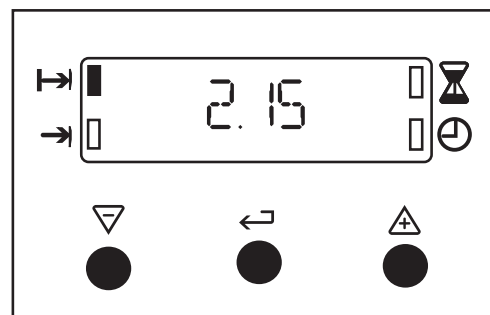

Fig.7.
- iii) To set the length of cooking time. Press the Selector Control button until the 'Cook Time' indicator neon is illuminated. Press the increase control (+) until the required length of cooking time is displayed, e.g. 2 hrs 15 mins as Fig. 7. If necessary depress the decrease control (-) until the correct time interval is achieved. The maximum cooking time is 10 hours.